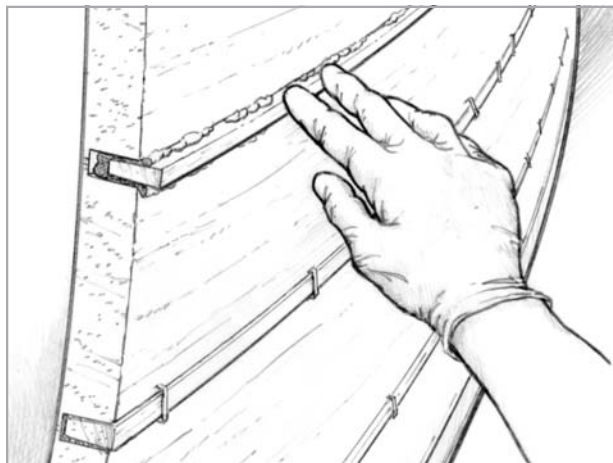

Figure 5-3 Push the wet-out spline into the seam.
3. Apply a bead of epoxy/403 or 406 (mayonnaise consistency) in the seam. Use a syringe or an 810 Caulking Tube to fill the gap with enough epoxy so that a small amount will squeeze out when the splines are pushed in (*Figure 5-3*).